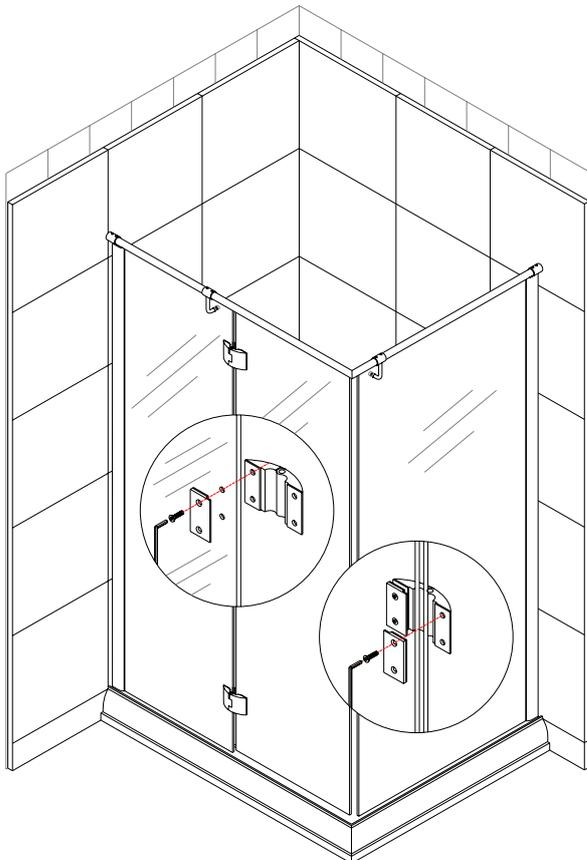
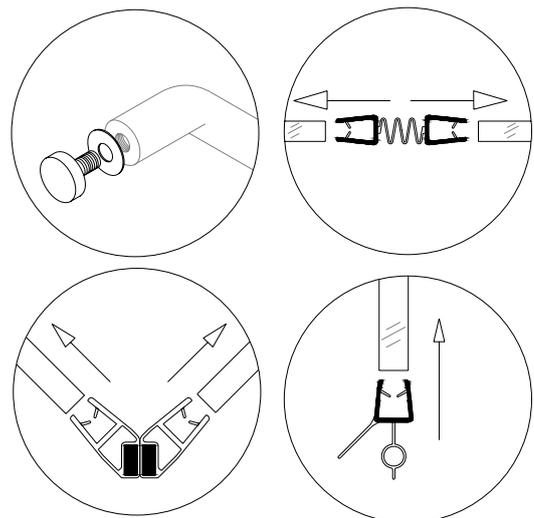
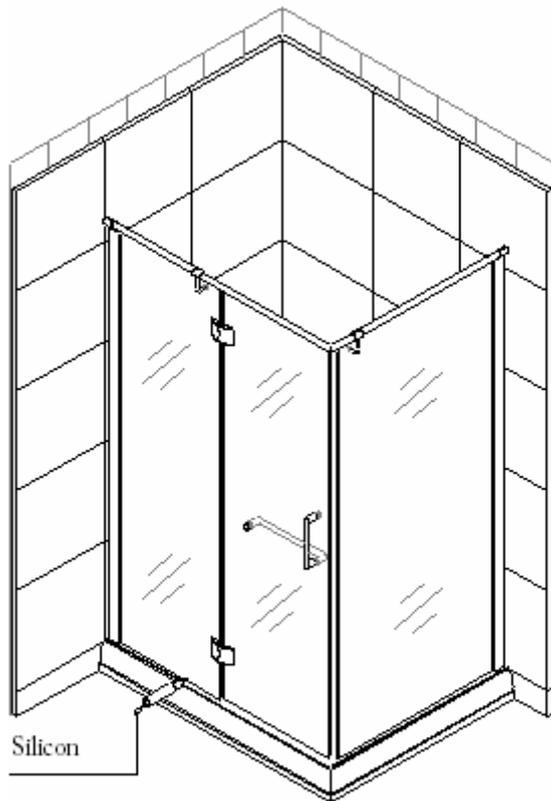

Fig 5
Fig 6
Fig 7
6. Install the **Hinges (8)** onto the narrow stationary glass panel and the glass door. Upper edge of **Glass door** should be on the same level as upper edge of the **Stationary glass**. You will need assistance in this process. Start off by attaching the hinges to the narrow stationary glass panel. Place the hinge from the outside and screw it in from the inside, do this for the bottom hinge and the top hinge, but start first from the top hinge when you begin to put the door on. Make sure that until both hinges are installed securely, the door does not swing around or lean/bend to any side because that could cause the hinge to snap. After the hinges are installed open and close the door to make sure it's nice and smooth (fig 5). Push on the **Connected anti-water strip (15)** to seal between glass door and narrow stationary glass (fig 6).
7. Install the **Handle** to the **Glass door**. Locate the Vertical Handle and Horizontal Handle (9). The horizontal handle will be on the outside and the vertical handle will be on the inside of the door. Start the installation from the outside which will involve the horizontal handle first. Don't forget to use the rubber gaskets between the glass and washers.
8. Apply silicone sealant along the wall profiles and bottom guide rail (fig 7).